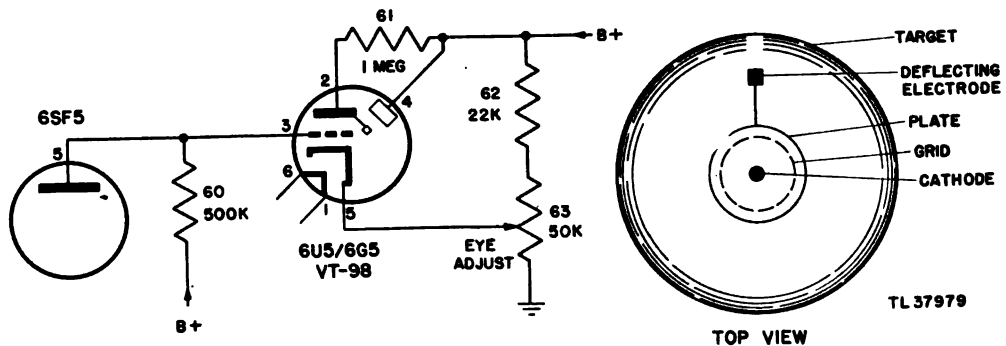

Figure 66. Tuning indicator, partial schematic.
a. GENERAL. It has been pointed out that the plate voltage of the d-c amplifier is tied directly to the grid of the tuning indicator tube (6U5/6G5). This tube, however, is kept from drawing excessive current because the cathode is kept at a high positive potential. When the cavity resonator is at resonance a high current flows through the d-c amplifier. This causes a large drop across resistor 60 (the d-c amplifier load resistor), thus making the voltage on the plate less positive. This, in turn, makes the voltage on the grid of the tuning indicator less positive and tends to cut down the flow of current through the tuning indicator tube (fig. 66):